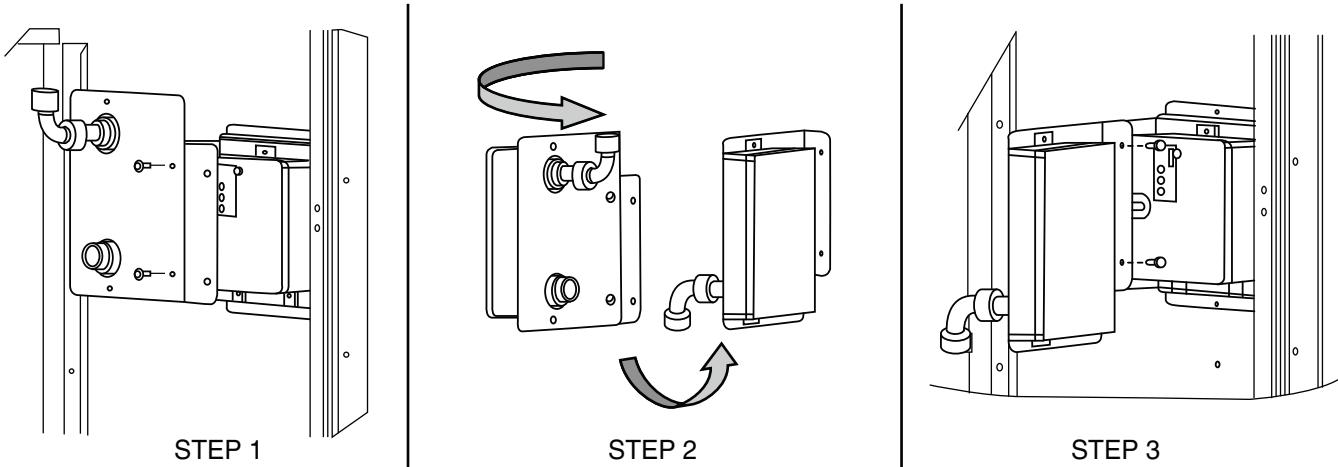

Fig. 71 — Completing Installation of Return Air Smoke Sensor
1. Unscrew the two screws holding the return air smoke detector assembly. See Fig. 71, Step 1. Save the screws.
2. Turn the assembly 90 degrees and then rotate end to end. Make sure that the elbow fitting is pointing down. See Fig. 71, Step 2.
3. Screw the sensor and detector plate into its operating position using screws from Step 1. See Fig. 71, Step 3.